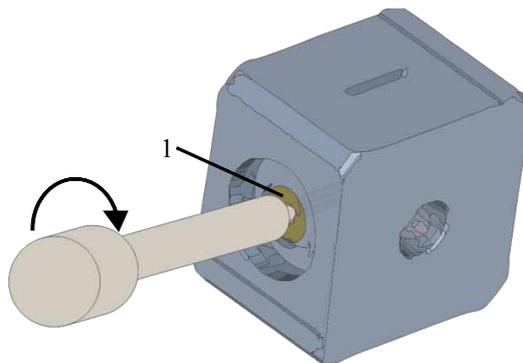
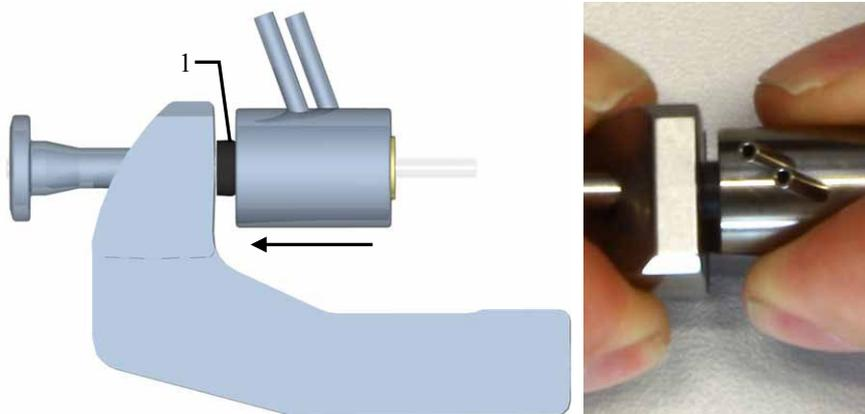

Fig. 54: Removing the primary piston seal (1) from the displacement chamber
Fig. 60: Installing the secondary piston seal (1)
Each piston has two piston seals: A primary piston seal in the displacement chamber (→ Fig. 54, page 119), and the secondary piston seal in the guide bushing (→ Fig. 60, page 122).
6. Place the holding hook on a clean surface with the hook pointing upward (→ Fig. 60).
8. Carefully slide the guide bushing on the piston with the rear seal wash ports facing towards the holding hook (→ Fig. 60). You can use the hook as a help to carefully push the seal in the guide bushing.